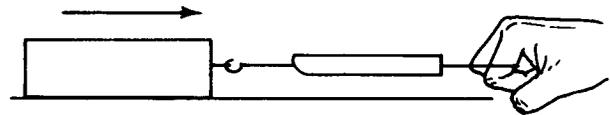

Figure 6-4
3. With the spring scale, slide the wood block along the table top through a distance of 20 cm (Fig. 6-4). Complete Table 6-2.